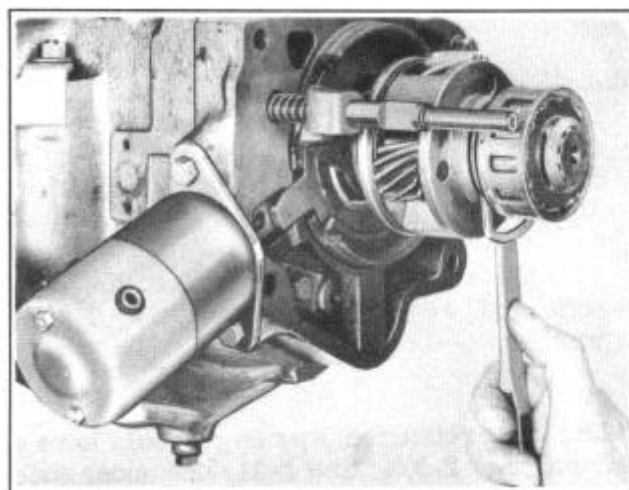

FIGURE 23
1. Install the clutch cam and pinion cage, attach the clutch cam to the pinion cage assembly with the large retaining clip, Figure 23.